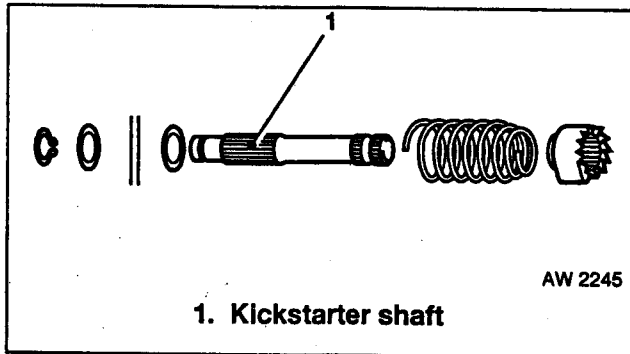

Fig 2.33 Kick-Start Assembly
- c. On refitting the screw (48) apply Loctite Number 242 blue (medium strength) on the threads and torque to 5.5 Nm (4 ft/lb).
- a. The kick-start assembly is as Fig 2.33.
- c. The ratchet gear (25) can only be removed when the stop screw, screwed into the crankcase casting from the underside has been removed. Caution should be exercised here as the kick-start return spring (24) is under tension and is liable to quickly rotate the ratchet gear and force it off the shaft.